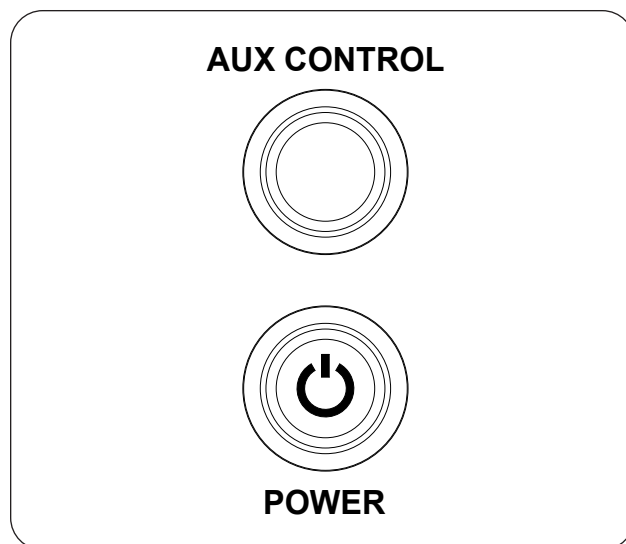

Fig. 35-1 Manual Operation:
1. Locate the **POWER** button on the control panel, and push it (see Fig. 35-1). The light will illuminate indicating the system is on and ready.
2. Locate the **AUX CONTROL** button on the control panel, and push it (see Fig. 35-1). The light will illuminate and the burner ignition sequence will begin.
To shut down the burner (system will remain on), push the **AUX CONTROL** button (see Fig. 35-1).
To shut down the burner and system (total shutdown), push the **POWER** button (see Fig. 35-1).